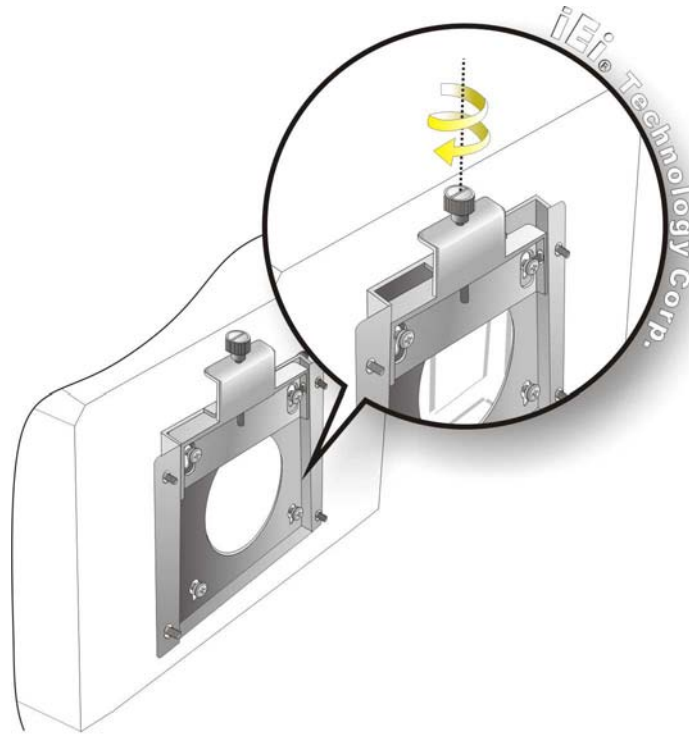

Figure 3-7: Secure the uIBX-210-CV-N2600
Step 9: Secure the uIBX-210-CV-N2600 by fastening the retention screw of the wall-mounting bracket. (Figure 3-7).